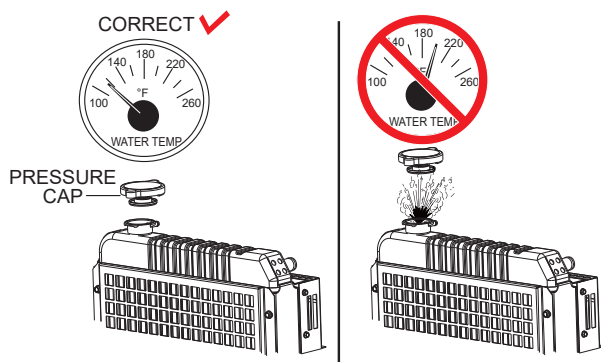

Figure 47. Radiator Pressure Cap Removal
1. Remove the **radiator pressure cap** (Figure 47) only when the coolant temperature is below 120°F (50°C).